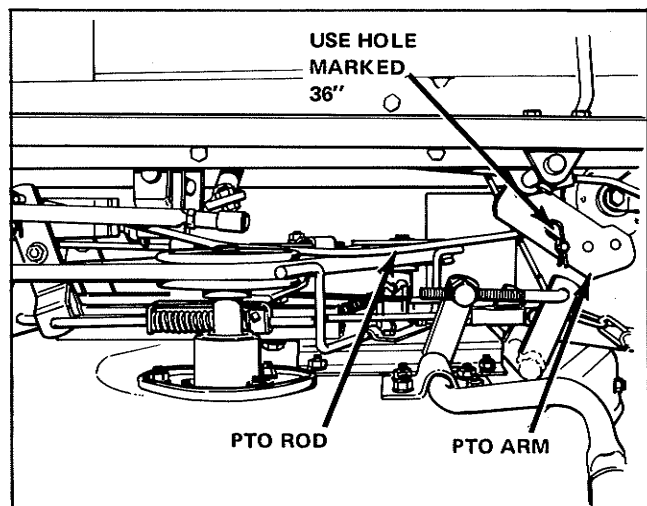

Figure 4. Installing PTO Rod
7. Install the PTO rod onto the mower PTO arm and the PTO lever (use front hole in PTO lever, as shown in figure 4).